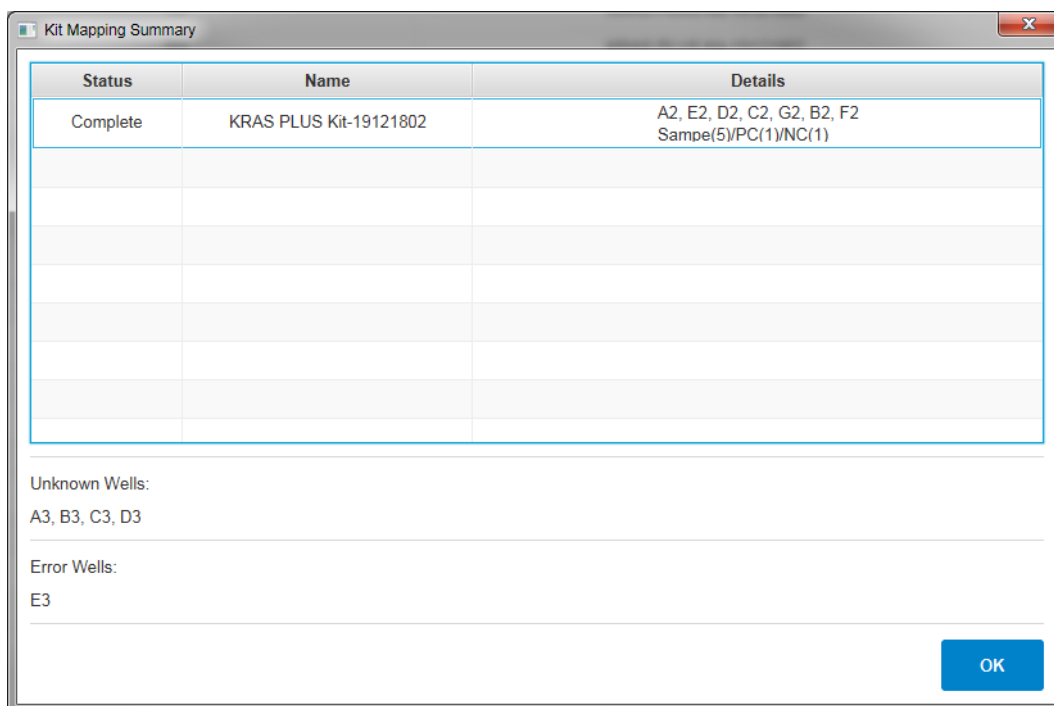

Fig. 28. Kit Mapping Summary
- Step 3. A pop-up window, “Kit Mapping Summary”, with the summary of kit mapping results, including kit name(s) and lot number(s) of the assay(s) will appear (Fig. 28). The table shows all recognized kits (assay-lot specific ENC imported) with their corresponding wells. The table also shows “Unknown Wells” for all wells that could not be matched to an ENC file (see “Note” below) or “Error Wells” (πCode MicroDisc not found). If all wells associated to a specific assay-lot analyzed on the 96-well plate are shown as “Unknown Wells”, the assay-lot-specific ENC file is missing. The ENC file can be